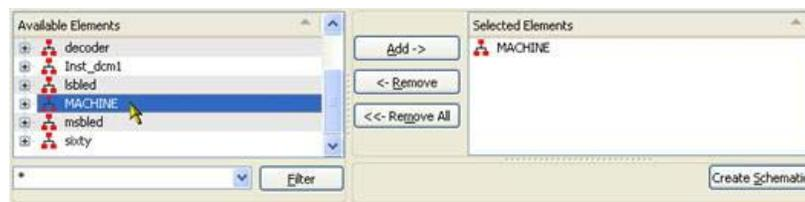

Figure 5-3: Selecting Hierarchical Elements
3. Select the hierarchical block named **MACHINE**, and move it to **Selected Elements** using the **Add** button, and then click **Create Schematic**. See Figure 5-3.